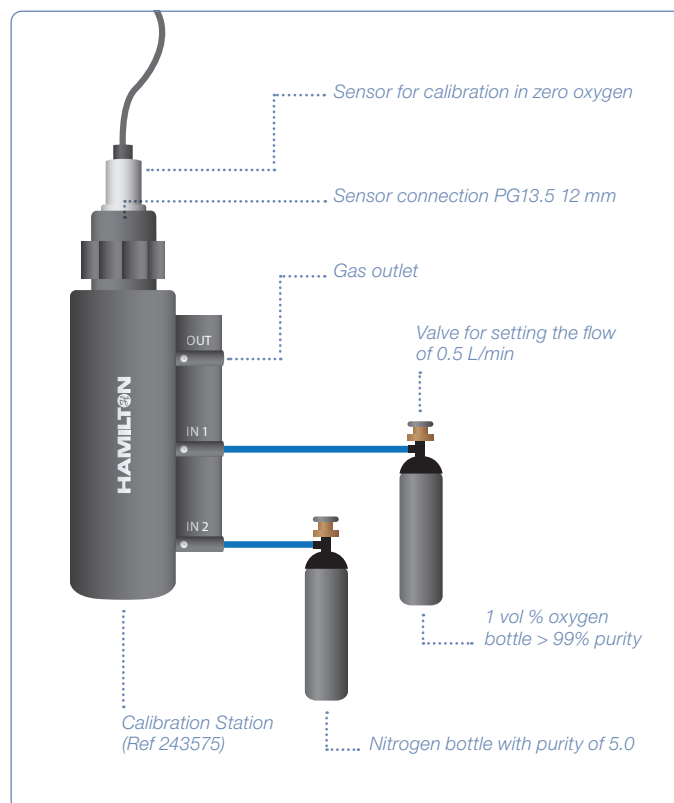

Figure 14: Zero point calibration setup
- 1) Install the sensor into the calibration station and connected the Nitrogen calibration gas (Figure 14)